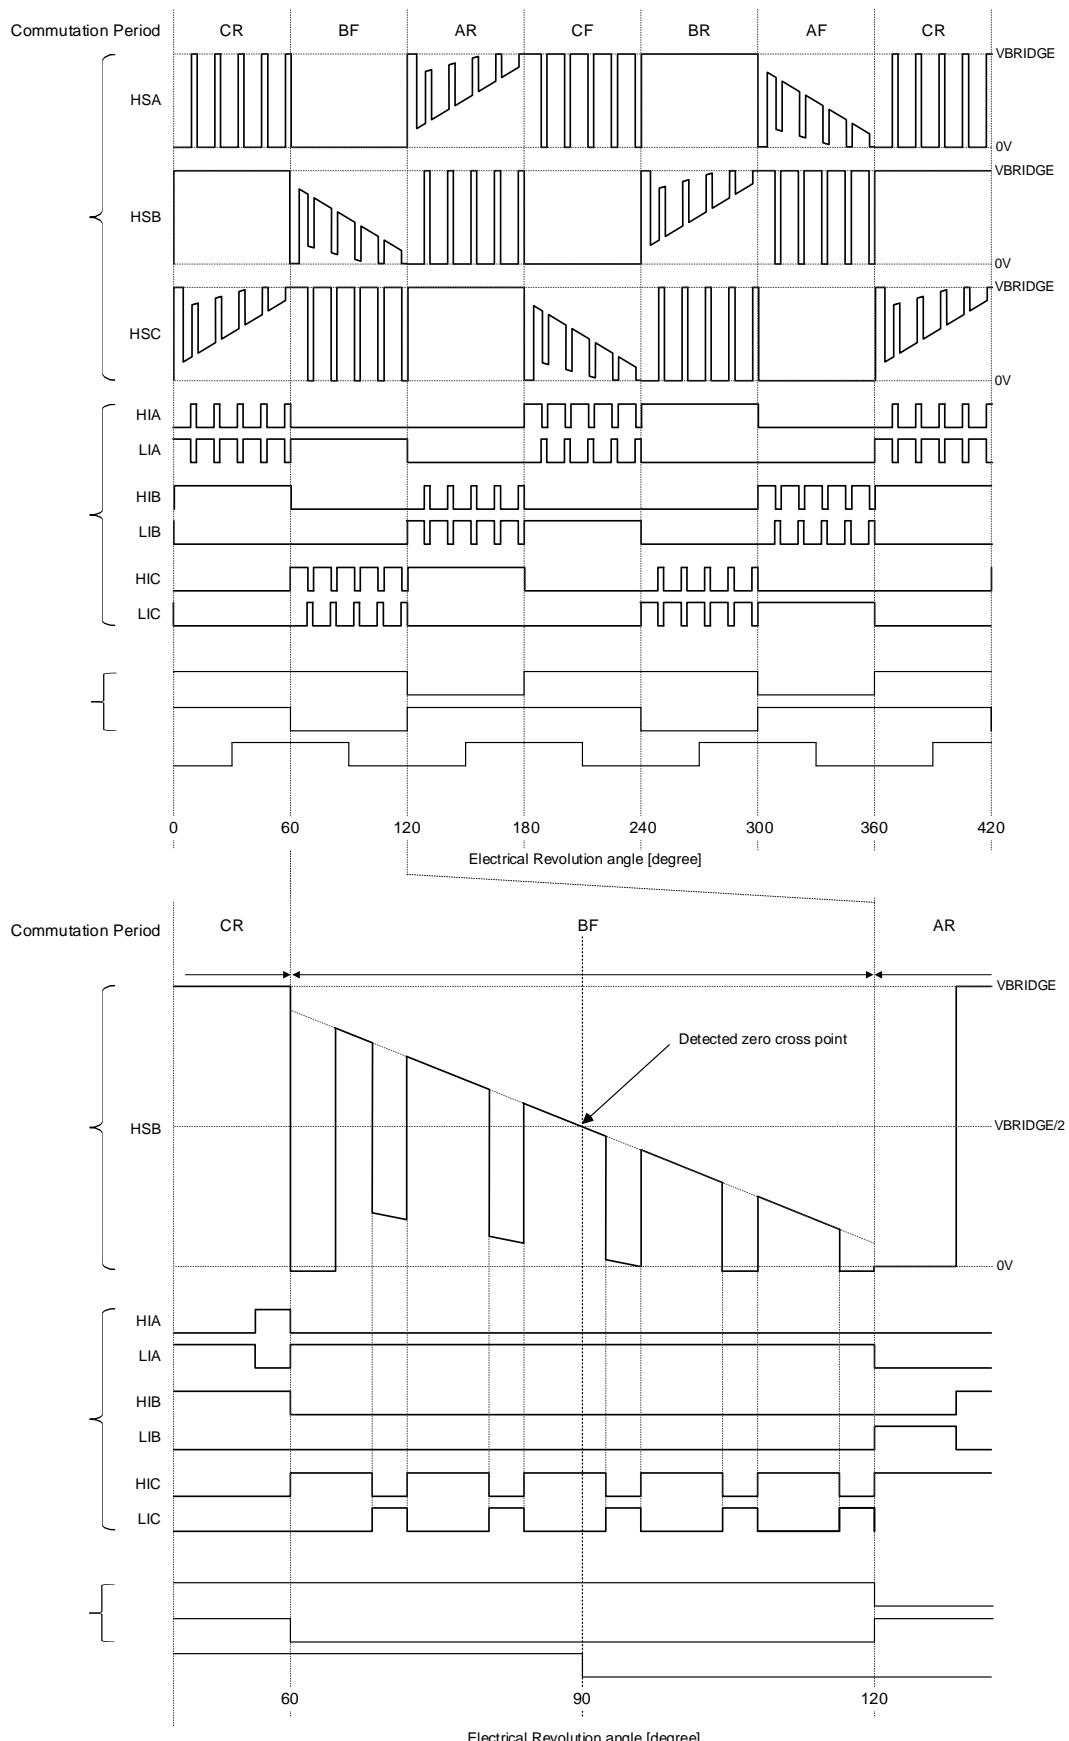

Figure 2-5 Operating Waveform Diagram – Sensor-less Motor Drive by BEMF Sensing Comparator
**Figure 2-5** shows an operating waveform diagram for sensor-less motor drive by BEMF sensing comparator. Since BEMF can be observed in the de-energized phase, the BEMF detection phase must be selected suitably each time the energized phase is switched. The selection method of the BEMF detection phase can be selected by the BEMF\_PH bits. For details, refer to 6.5.3 in the “RAA306012 Datasheet \(R18DS0037EJ\)”. In addition, a detection mask time must be provided to prevent zero-crossing false detection due to kickback that occurs when switching the energized phase. Set an appropriate detection mask time considering the motor speed, drive current, etc.